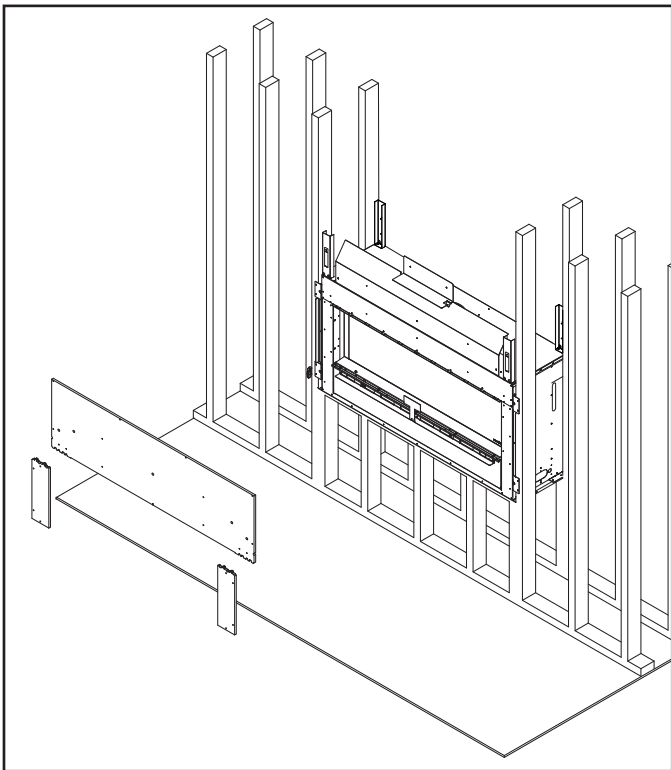

Figure 6.7 Install Factory-Included Non-Combustible Facing Material
- Attach top board to the framing members with regular sheetrock screws or nails. See Figure 6.7.